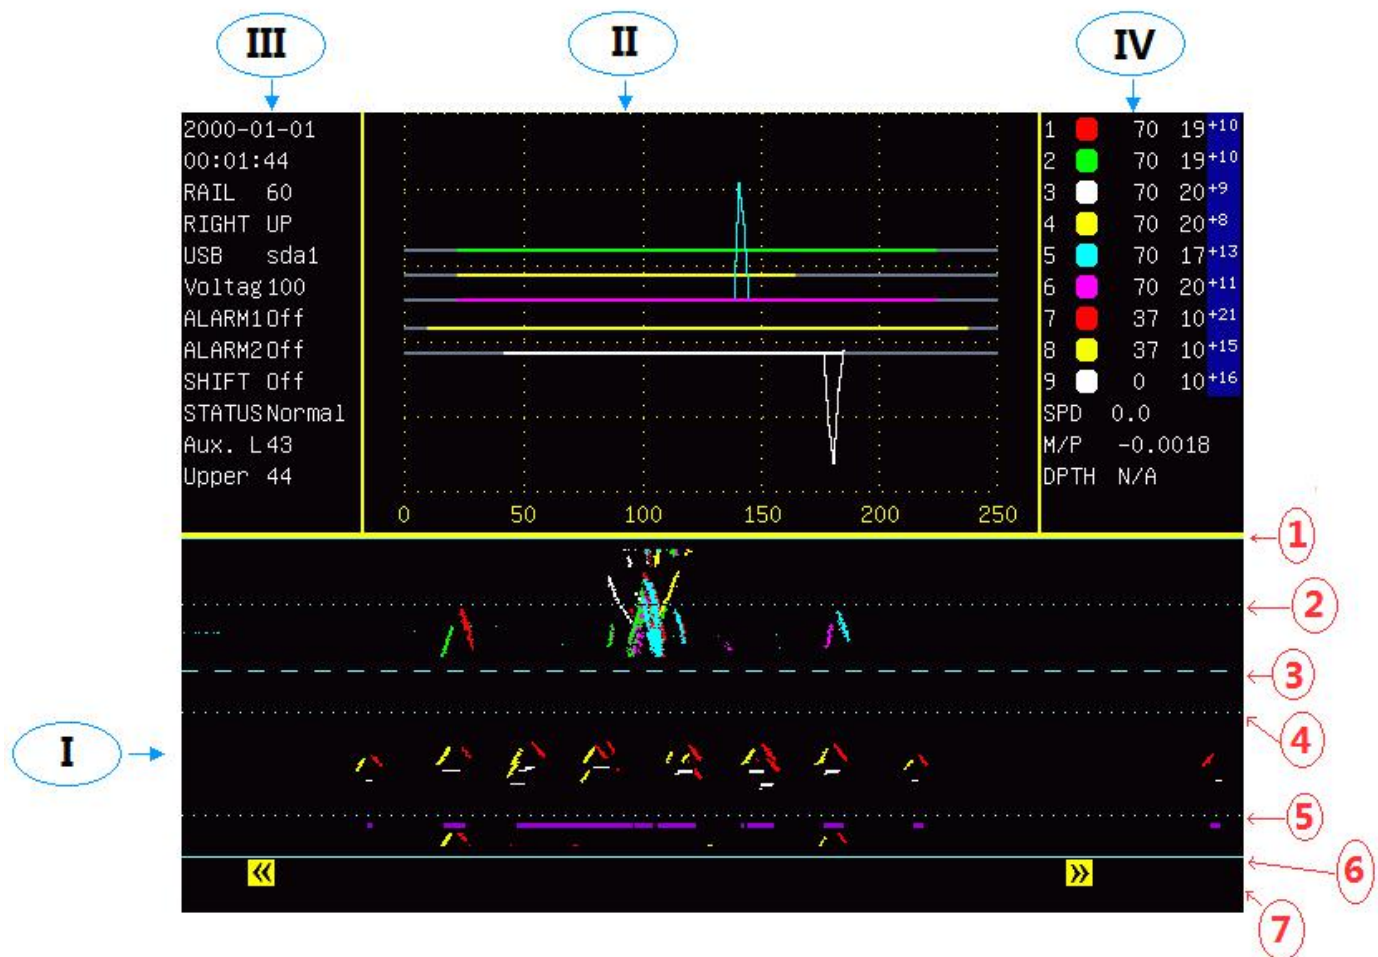

Figure 2 Simultaneous A/B scan Mode
Once the instrument is turned on, the instrument will be into simultaneous A/B scan mode. The following Figure 2 shows the simultaneous A/B scan mode after the instrument is turned on.
As it is shown in Figure 2 , The whole B-scan is divided into the following 4 areas.:
For example, to change the gain of channel 1, just press , the modified gain will updated on the screen as shown in the gain column in area IV in Figure 2, The modified gain will also be saved in the disk and the gain change will also be shown when the data is replayed.
Please note during B-scan, only the gain fine adjustment can be implemented, i.e., the blue highlighted gain column in area IV in Figure 2.
When the push cart is moving, press the numerical keys, annotation icon will be shown at the bottom of the B-scan area ( Area ⑥ ) of Figure 2). Please note only when the cart is move, the icons will be shown on the screen. If the cart is not moving or B-scan stops, no icons will be shown.